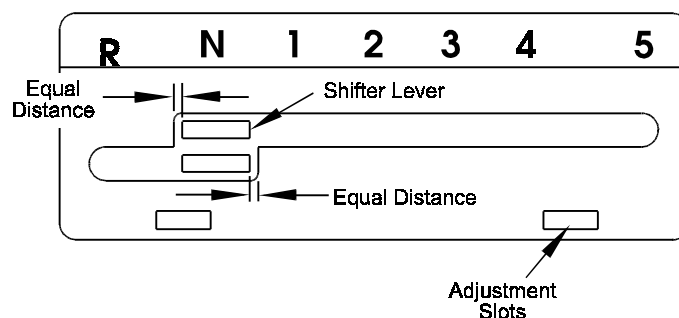

FIG. 8
- c) Shift to neutral position. Lever should not contact the left edged of the upper slot. Push lever down. Lever should not contact the right edge of the bottom slot (See Figure 8). Shifter plate can be adjusted side to side to adjust position of lever relative to the slot in plate. Loosen the two bolts securing the shifter plate to the shifter lever legs. Adjust shifter plate and retighten bolts.